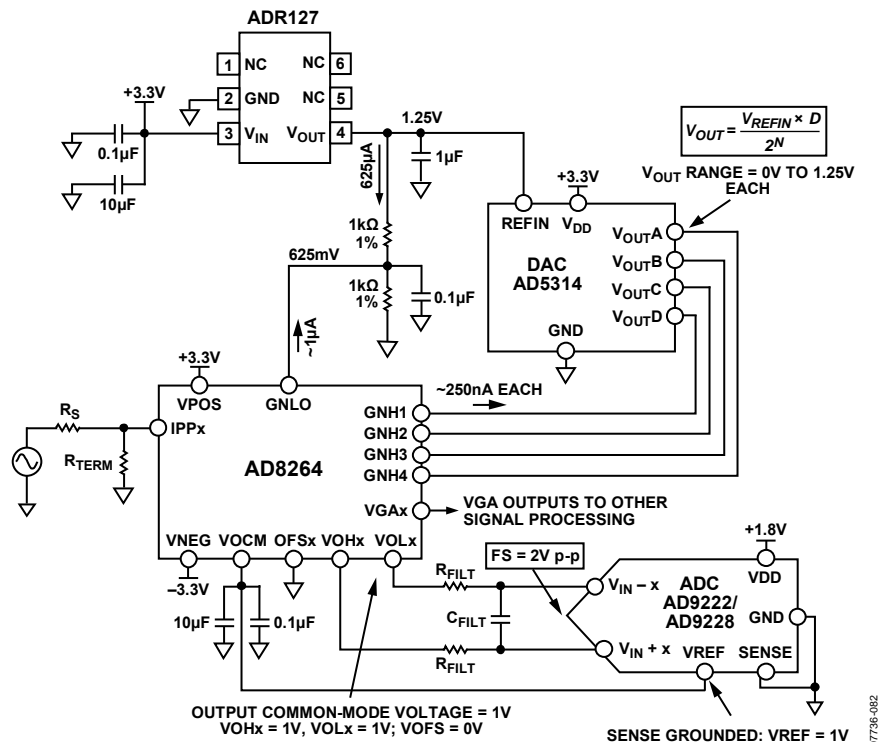
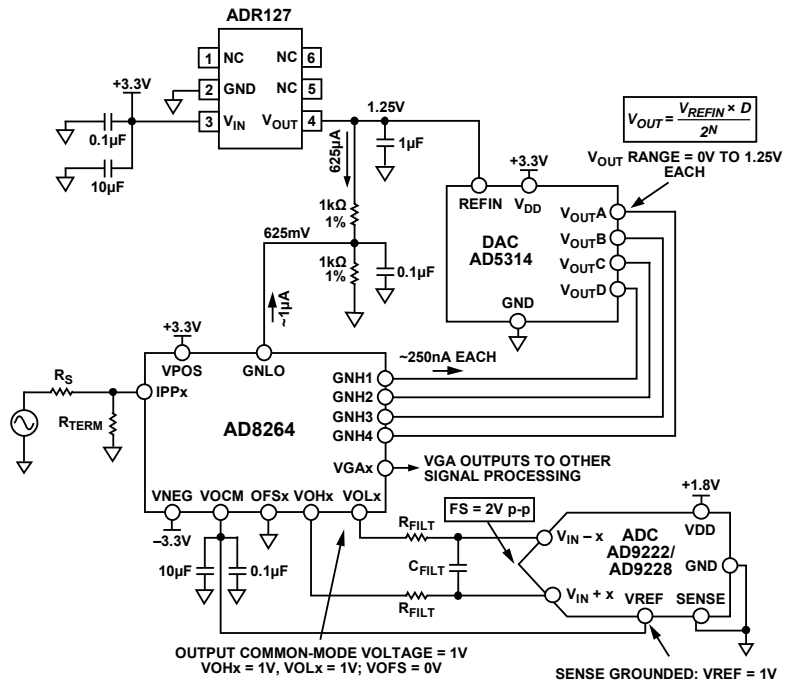

Figure 112. Application Concept of the AD8264 with the AD5314 10-Bit DAC and the AD9222/AD9228 12-Bit ADC
Figure 113. Concept Application of AD8264 with 40-Channel AD5381 12-Bit, 3 V DAC and AD9222/AD9228 12-Bit ADC
The AD8264 is particularly well suited for use in the analog front end of medical PET imaging systems. Figure 112 shows how to use the AD8264 with the AD5314 (a 4-channel, 10-bit DAC) and the AD9222/AD9228 (an octal or quad, 12-bit ADC, respectively). The DAC sets the gain of the AD8264. Note that the full gain span of 24 dB is achieved with this setup because the gain control input range of the AD8264 is very close to 1.25 V. The GNLO pin must offset by $1.25/2 = 625$ mV because the gain control input is bipolar around the voltage applied at GNLO. This is done with two 1 k Ω , 1% resistors. The approximately 1 μ A of bias current flowing from the GNLO pin does not contribute a significant error because the basic gain error of the AD8264 is the limiting factor.
Figure 112 also includes the DAC output equation, which indicates that the output can vary between 0 V and $V_{REF} = 1.25$ V.
The single-ended-to-differential amplifier of the AD8264 amplifies the VGA output signal by 6 dB and can provide the required dc bias of the AD9222/AD9228, as shown in Figure 112. The ADC is connected with the default internal reference because the SENSE pin is grounded. With this connection, the AD9222/AD9228 VREF pin is an output that provides 1 V; this is then connected to the VOCM input of the AD8264, which sets the output common-mode voltage of the VOHx and VOLx pins to 1 V. This voltage is very close to the recommended optimal value of $V_{DD}/2 = 0.9$ V. With this configuration, the ADC inputs are set to a full-scale (FS) of 2 V p-p.
The dc connected concept example in Figure 113 is an application with the 40-channel AD5381, 3 V, 12-bit DAC. The main difference between this example and Figure 112 is that, for the same ADR127 1.25 V reference, the full-scale output of the DAC is from 0 V to $2 \times V_{REFIN} = 2.5$ V. Two options for gain control include the following:
- Use the same circuit as in Figure 112 but use only half the DAC output voltage from 0 V to 1.25 V. This is the simplest solution, requiring the fewest extra components. Note that the overall gain resolution increases by one bit to 11 bits over the 10-bit AD5314.
- Ground GNLO and scale the DAC output so that the GNHx inputs vary from -0.652 V to $+0.625$ V. Figure 113 shows a possible circuit implementation using a divider between the DAC output and a -1.25 V reference.
Figure 113 shows how the AD8264 is connected in a PET application. The PMT generates a negative-going current pulse that results in a voltage pulse at the preamplifier input and a differential output pulse on VOLx and VOHx.
A convenient method of verifying and customizing the signal chains shown in Figure 112 and Figure 113 is by ordering the corresponding evaluation boards available on www.analog.com. The AD8264-EVALZ is a platform through which the user can quickly become familiar with the features and performance capabilities of the AD8264. See the Evaluation Board section for more information.